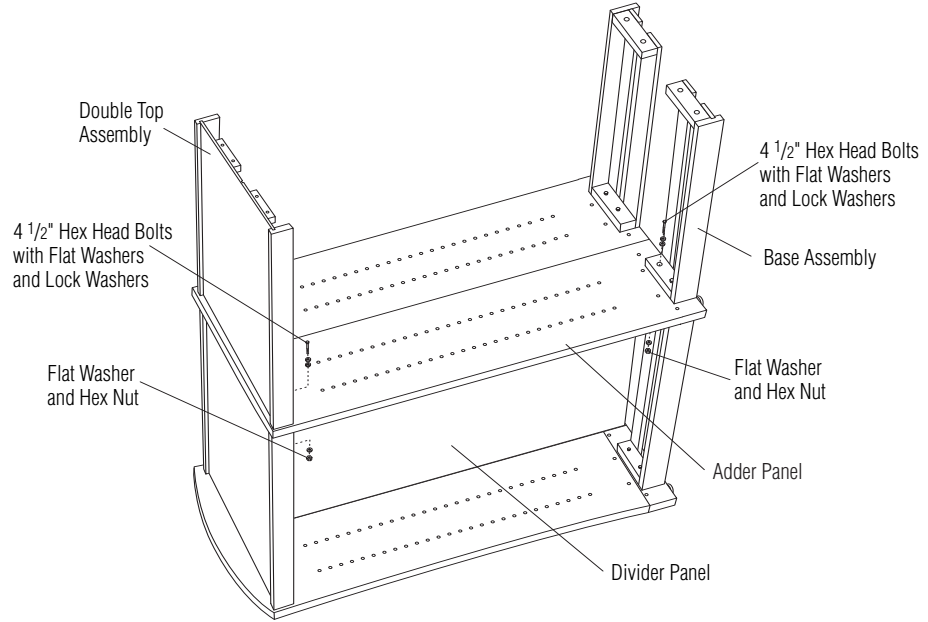

Figure 5
5. Position adder panel (has holes on both sides) by aligning the upper holes with the holes in the previously installed top assembly (Figure 5). Check that the divider panel is still positioned in the center groove. Position the top assembly for the adder unit by aligning the holes with the holes in the adder panel.
6. Insert four 4 1/2" hex head bolts with a lock washer and a flat washer from the inside of the top assembly through the adder panel and previously installed top assembly (Figure 5). Tighten.